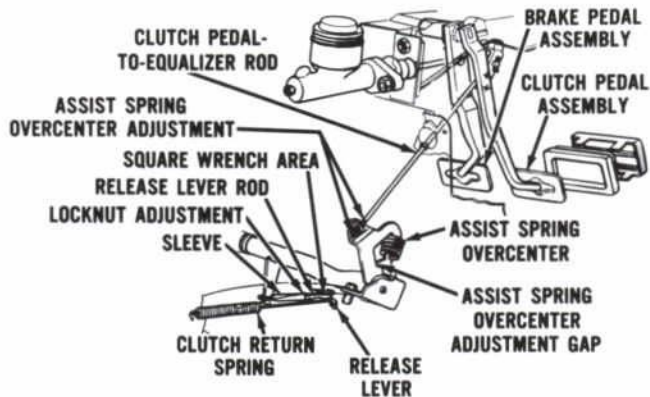

Figure 4—Ford Clutch Pedal and Linkage Adjustment
1. With the clutch pedal against its bumper (pedal released), measure the distance between the assist spring bracket and the equalizer upper lever. (Figure 4). The distance should be 0.136 inch. It may be necessary to depress the clutch pedal to insert the feeler gauge.